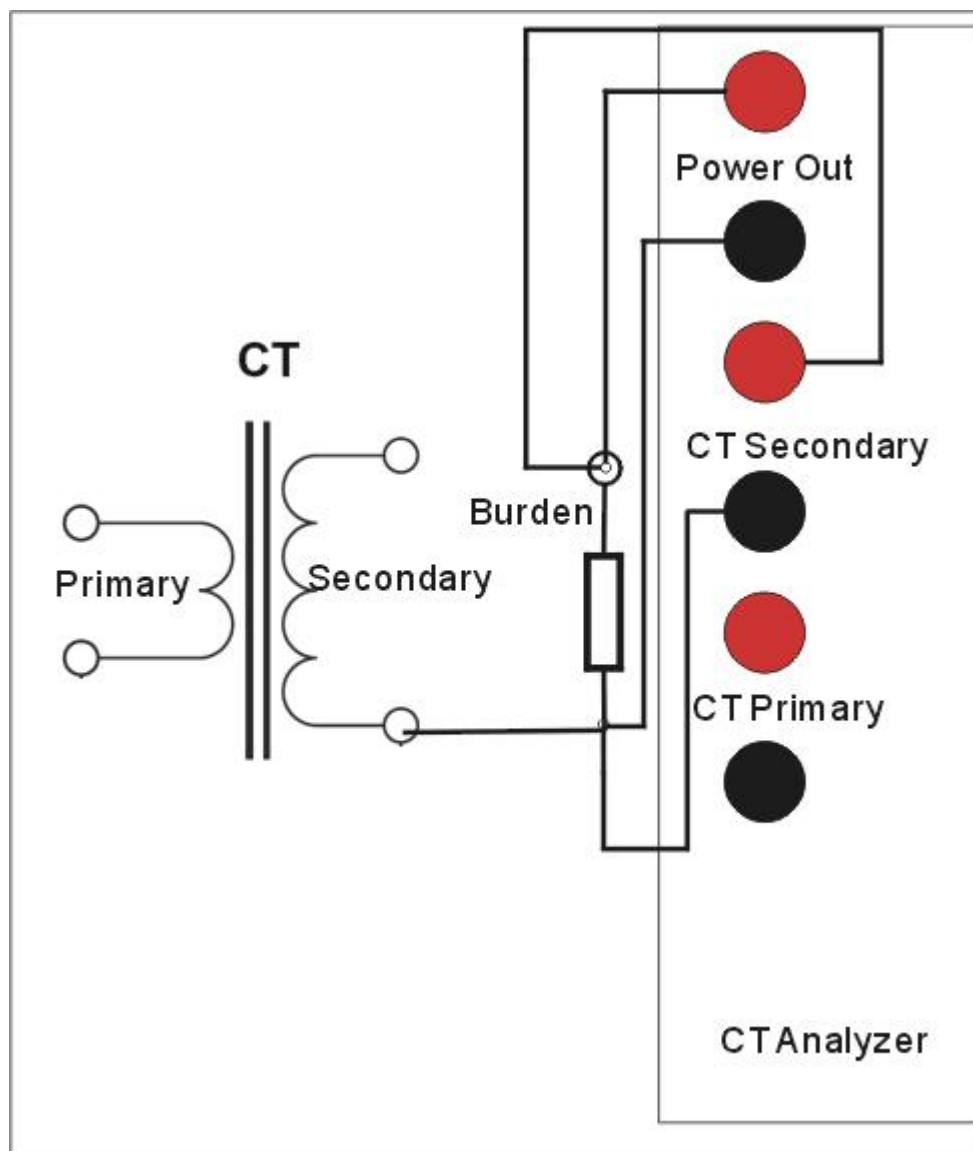

Figure 3.1 Secondary burden test connection
Please connect analyzer and sample CT as figure 3.1 in CT secondary burden test
- 2) Disconnect sample CT secondary coil with secondary loop as figure 3.1.